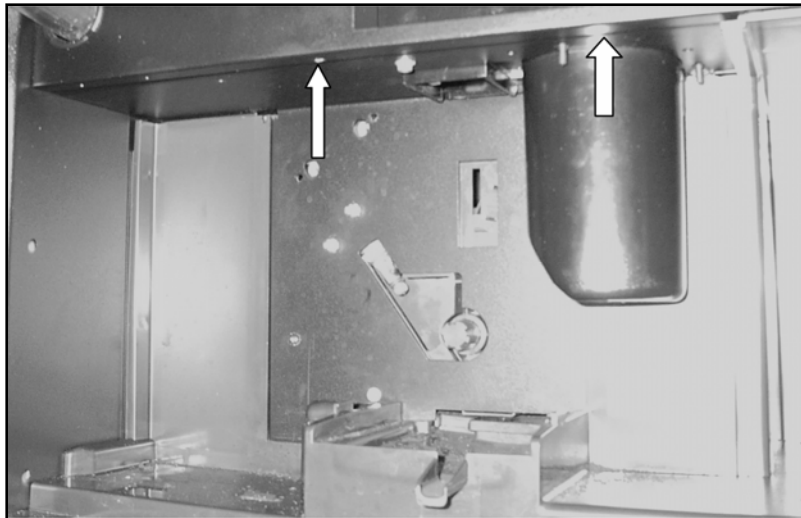

Figure 5-35: Upper Front Plate Assembly Retaining Screws
23. Remove the two Upper Front Plate Assembly Retaining Screws – as shown in Figure 5-35.